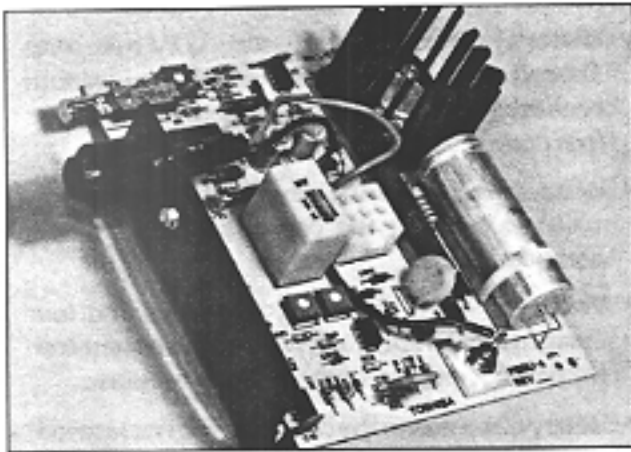

FIGURE 8—PBBU PCB
**02.01** The power battery backup unit (PBBU) in Figure 8 is an optional PCB which may be installed in the MPSA-200 to interface with two auxiliary 12 VDC batteries. In the event of an electrical power failure, the PBBU provides an automatic battery power source, permitting a typical **Strata S** system to continue normal operations for some time (in direct ratio with the type and size of the batteries chosen).
- The "Battery Override" switch (Figures 8 and 9) is placed in the ON position.